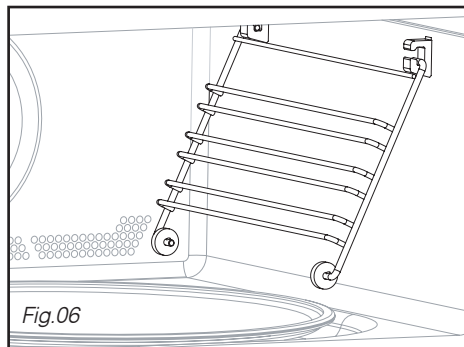

Fig.06
• **Side racks (Fig.06):** 2 two shelf supports with hooks allow you to use the grid at three heights.